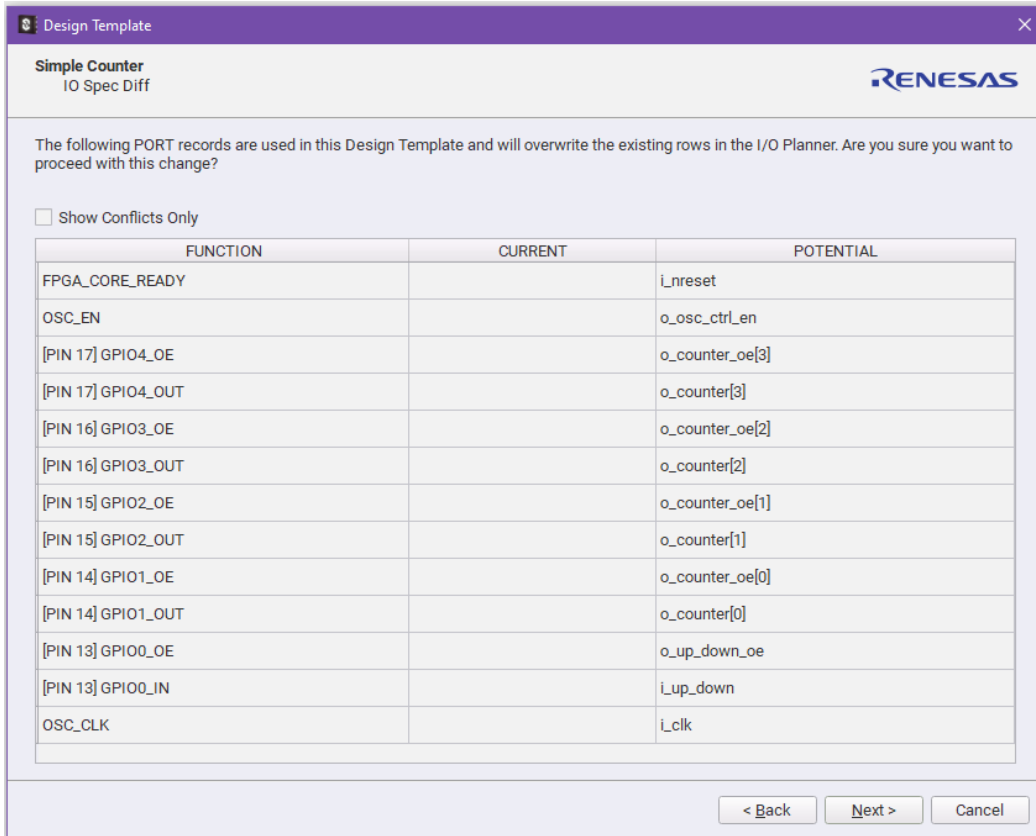

Figure 9. Design Template IO Spec Diff
- IO Spec* generates an *IO Spec Diff*, presenting a comparison between the existing design port records and the ones associated with the selected template. This serves as a cautionary step as your current port configurations could potentially be overwritten by those of the chosen template. The software highlights conflicting entries in yellow. You can choose to focus solely on conflicts by selecting the *Show Conflicts Only* option. However, if you prefer not to review the IO Specs, the software streamlines the process by skipping the IO Spec Diff (see Figure 9). In this scenario, the tool will prompt you straight to the Module name.